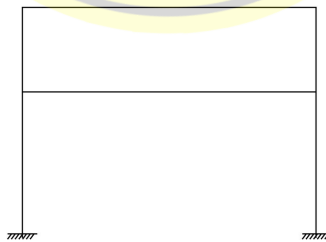

Fig. Q. 31
31. The degree of static indeterminacy of the frame shown in Fig. Q. 31. is